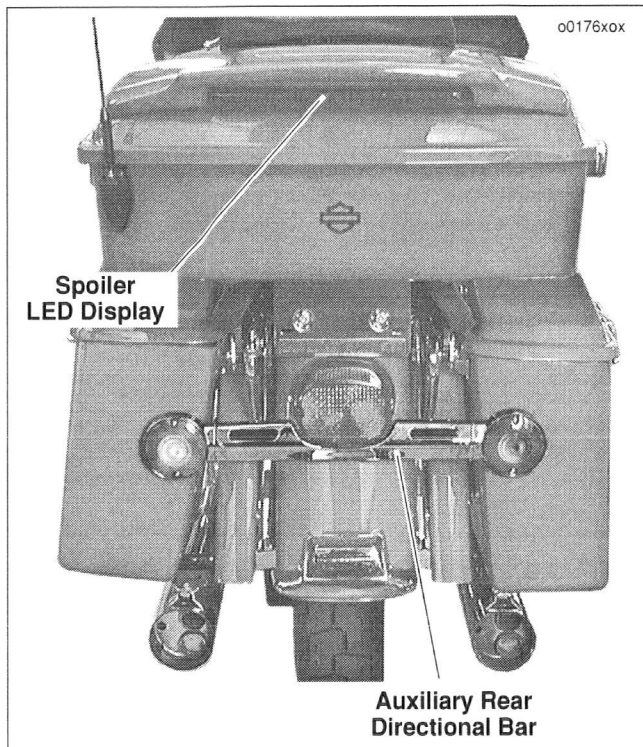

Figure 33. Rear Directional Bar
See Figure 33. The Screamin' Eagle® Road Glide® (FLTRSEI) motorcycle has an auxiliary rear directional bar attached to the rear fender below the brake light. The directional bar is an LED display showing:
See Figure 33. The Screamin' Eagle® Road Glide® (FLTRSEI) motorcycle has a decorative spoiler attached to the top of the Tour-Pak. The spoiler contains a brake/running LED display showing:
6. Insert the TORX[®] fastener through the hole in the bottom of fairing lower and the "P" clamp. Holding the locknut in place, use a T40 TORX[®] drive head and turn the TORX[®] fastener clockwise (CW). Tighten TORX[®] fastener to 12 ft-lbs (16.3 Nm) torque.
8. See Figure 33. Install two phillips head fasteners to secure fairing lower cap. Tighten fasteners to 10-20 in-lbs (1.1-2.3 Nm) torque.